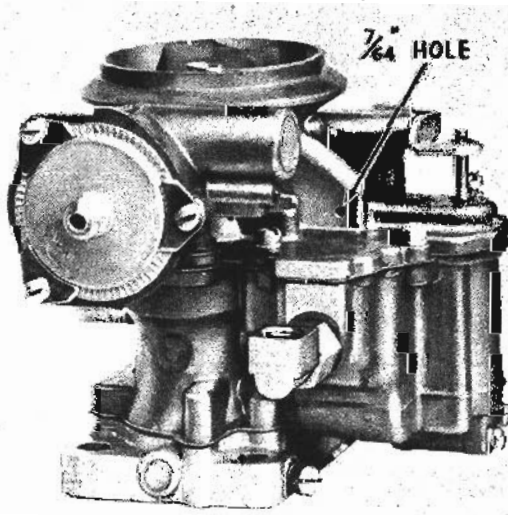
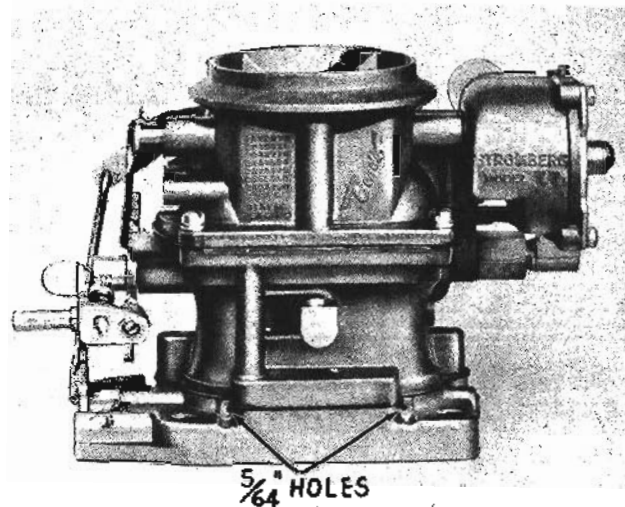

Fig. 1
Fig. 2
2. Drill a  $7/64$ " hole into the vent passage at the location shown in Fig. 1. Then, drill two  $5/64$ " holes in the throttle body at the locations shown in Fig. 2. It is not necessary to disassemble the carburetor to drill the holes but care should be taken to prevent chips from entering the carburetor.